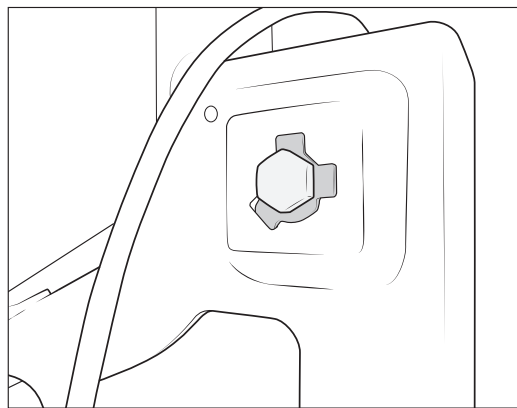

Figure 22
10. Use Anti-Seize and thread the Tire Mount Bolt with the safety lock washer through the back of the Tire Carrier (fig. 22). The pre-bent tongue will sit in the machined slot as shown. NOTE: It will make locking the safety washer easier later if you slightly bend up the ears prior installing the bolt.